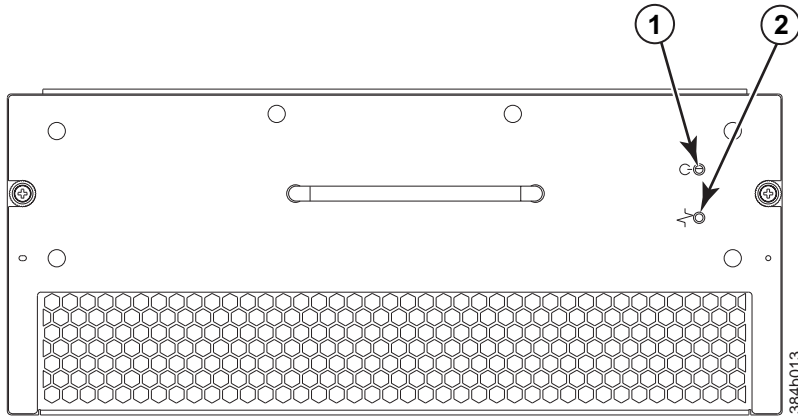

Figure 28. Blower assembly LEDs
1. Check the LED indicators on the blower assembly (see Figure 28 on page 56). The LED patterns may temporarily change during POST and other diagnostic tests; for information about how to interpret the LED patterns, see Table 14 on page 56.
Figure 28 on page 56 displays the blower assembly.